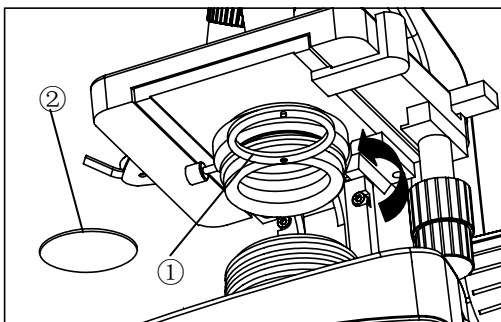

Fig.7
2.2.4 Installing the color filters (Fig.7)
1. Turn the condenser bracket① out at the direction of arrow in Fig.7
2. Put the required filters② into the holder on the bracket, and then turn the bracket back to the right position.